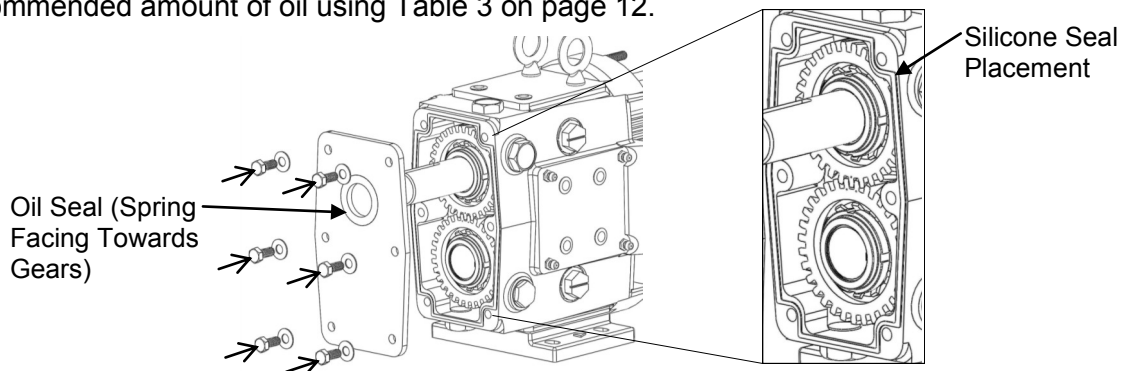

Figure 54: Installing Gear Casing Back Cover
10) Apply a light film of lubricant to the inside and outside diameters of the gear case cover oil seal. Using a press, install the oil seal into the back cover so that it is flush with the outside of the back cover and the spring is facing the gears. Apply a silicone sealant to the edges on the back of the gear case making sure there are no gaps. Slide the back cover onto the gear case, making sure that the shaft is centered on the oil seal, and secure it with the retaining bolts (Figure 54). It is important not to cut the oil seal on the shaft keyway; tape may be used to cover any sharp edges on the shaft. Install the oil plugs and fill the gear case with the recommended amount of oil using Table 3 on page 12.